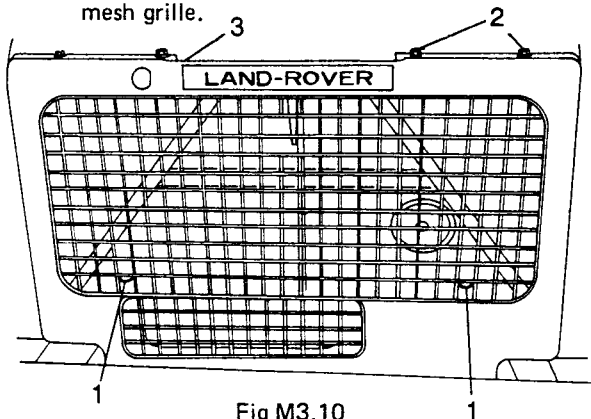

Fig M3.10
- (4) Refer to Fig M3.10. Remove the two screws (1) securing the coarse mesh grille and lift off the grille.
- (5) Remove the four screws (2) holding the grille panel (3) and lift off the panel.